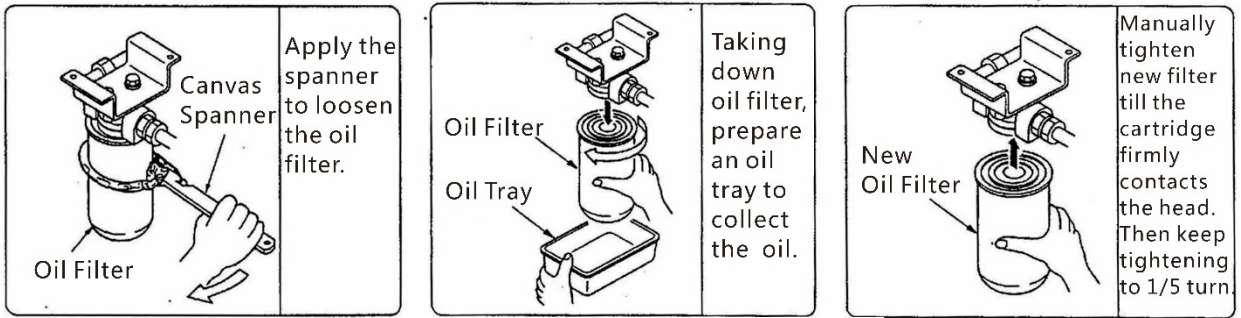

Fig6-2 Replacement Illustrative
6.3.4 The example of oil filter replacement is indicated as Fig. 6-2.